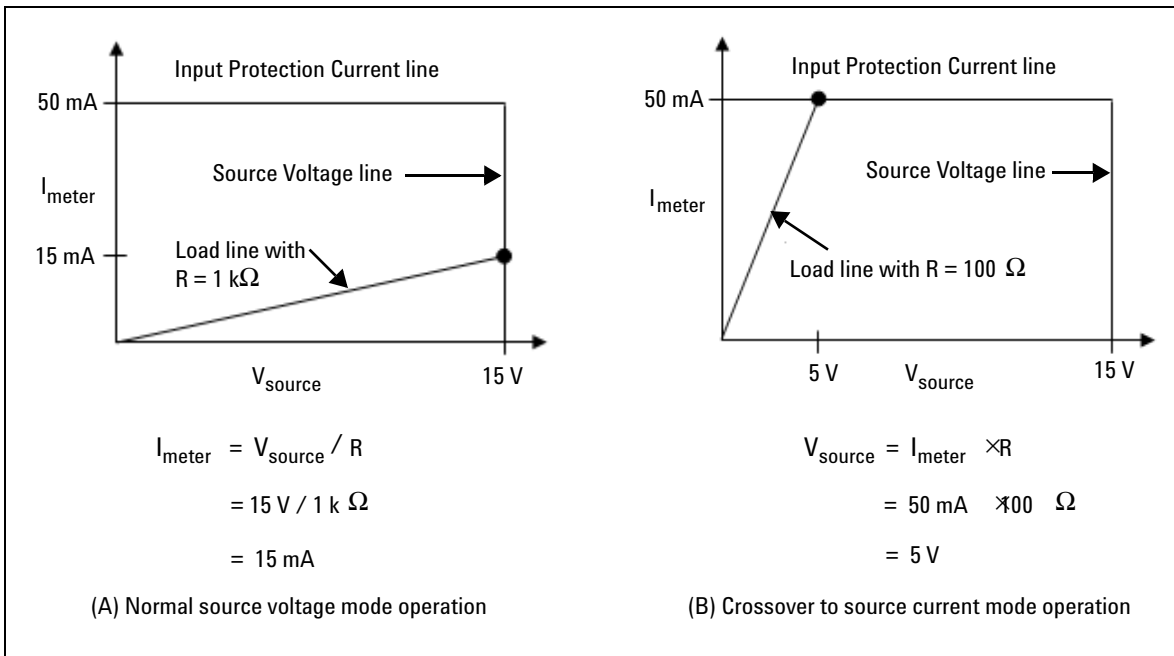

Figure 2-6 Source voltage operation
Figure 2-6 shows the operation with different resistive loads, which are $1\text{ k}\Omega$ and $100\ \Omega$ respectively. In these examples, the U2722A/U2723A is having a source voltage of 15 V and an input protection current of 50 mA .
In **Figure 2-6** (A), the U2722A/U2723A is having a source voltage of 15 V to a 1 kΩ load and it is measuring 15 mA. As long as the DUT load line intersects the source voltage line, it will be in source voltage mode and the voltage will maintain at 15 V. However in **Figure 2-6** (B), it shows that when the resistance of the load decreases to 100 Ω, the load line intersects the input protection current line. This forces the U2722A/U2723A to go into source current mode. Since the input protection current setting is set at 50 mA and the U2722A/U2723A cannot operate out of the boundary, the voltage changes to 5 V instead.